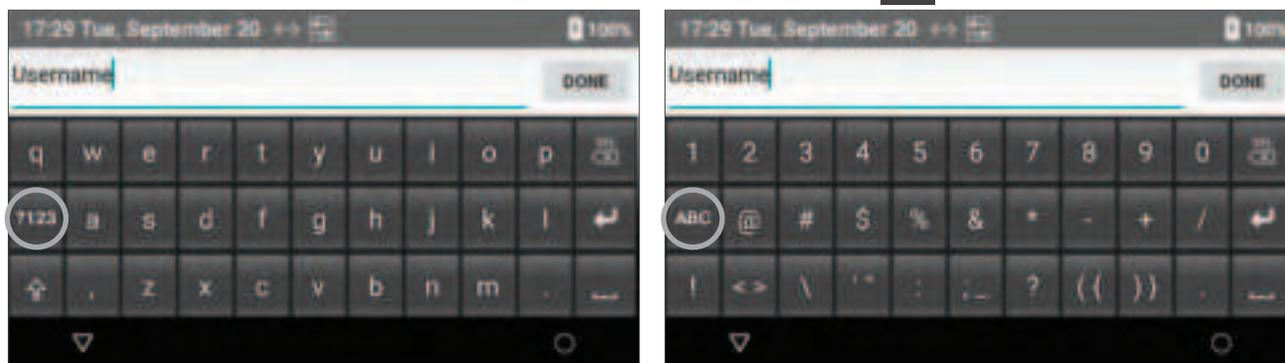

Figure 11: Virtual Keyboard with Numbers and Symbols
- To switch to the keyboard that contains numbers and symbols, select  (Figure 11).